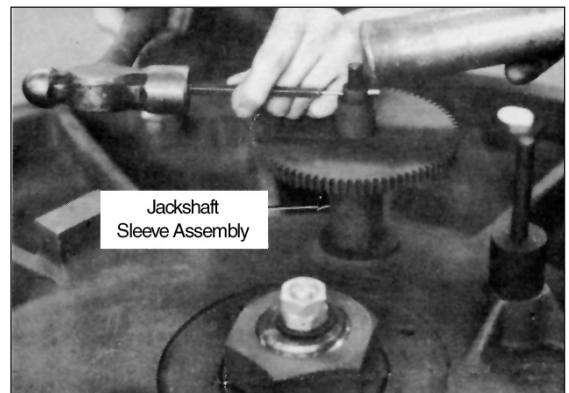

Figure 17
8. Remove jackshaft gear assembly. Use “back up” when removing pin to prevent damage to shaft, Figure 17.